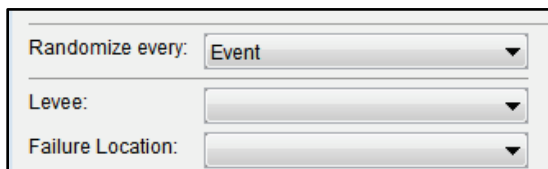

Figure 17.13 Fragility Curve – Initial Setup
1. The user can select from the **Randomize every** list (Figure 17.13) to have the failure elevations sampled by every event in a realization or sampled once in a realization. The default is to randomize the failure elevations by event.
2. From the **Levee** list (Figure 17.13), the user can filter the list of fragility CCPs. The list will either contain the names of levees that have been included in the HEC-WAT schematic (created in HEC-WAT for visual purposes only and not provided by the RAS
model alternative) or the **<Not Selected>** option. If the user selects the **<Not Selected>** option, then all of the fragility curve CCPs will be available from the **Failure Location** list (Figure 17.13).